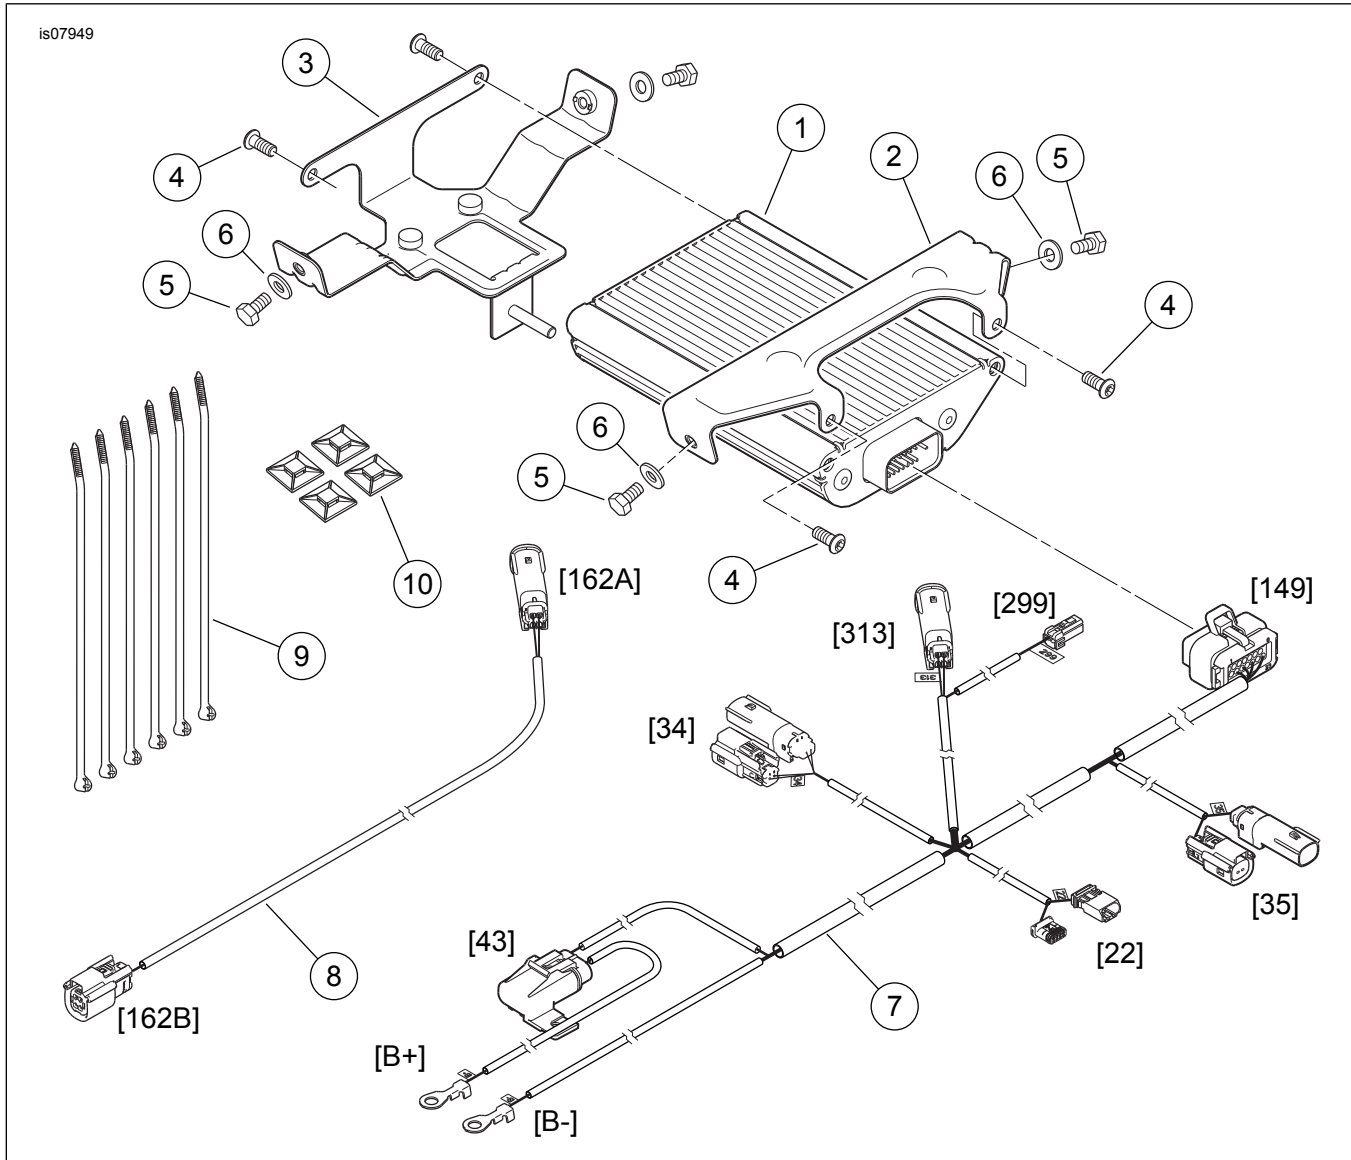

Figure 7. Service Parts, Boom! Audio Amplifier Kit
1. See Figure 7. Get the front (2) and rear (3) amplifier brackets and four hex socket screws (4) from the kit.